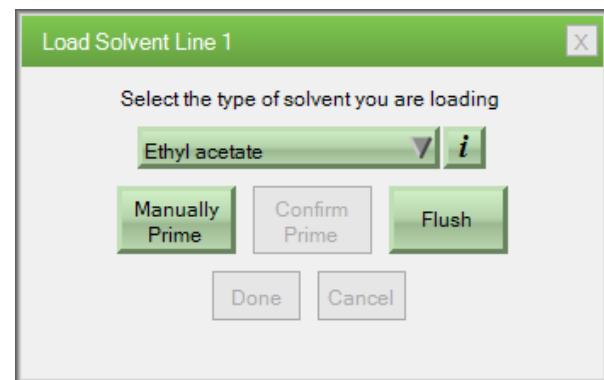
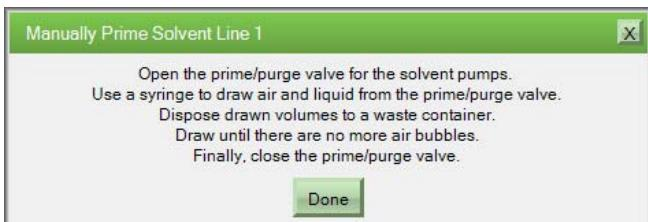

Figure 4-4: Load Solvent Line 1 Dialog Box after a Solvent has been Selected
Figure 4-5: Manually Prime Solvent Line 1 Dialog Box
4. Select the desired solvent. The solvent name will be indicated in the green box and the *Manually Prime* and *Flush* buttons will be activated (Figure 4-4).
5. Press the *Manually Prime* button. The display will present the dialog box shown in Figure 4-5.
7. Withdraw solvent from the bottle using the syringe until no air bubbles are seen coming from the system. This will typically require the withdrawal of approximately 60 mL, but will depend on the nature of the solvent. After you have primed the system, press *Done* (Figure 4-5). The system will present Figure 4-4 again with the *Done* and *Cancel* buttons activated.